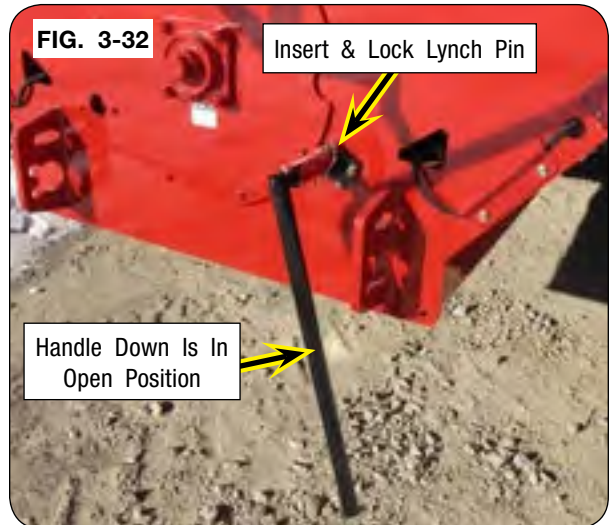

FIG. 3-32
3. Rotate the tensioner handle clockwise to open the cleanout doors. (FIG. 3-32)
4. Insert and lock lynch pin into rockshaft. (FIG. 3-32)